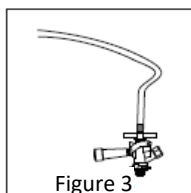

Figure 3
- b) Take out the accessories of the mixed ball valve. Attach the transparent hose to the beer outlet of the mixed ball valve (See Figure 3).